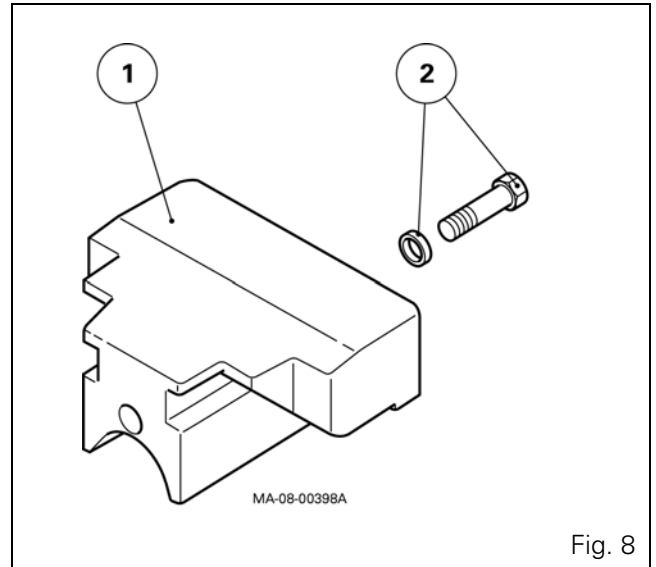

Fig. 8
**NOTE:** If fitted, the centre weight (1) (Fig. 8) is attached under the front frame and may hinder removing the bearing support.
- remove the screws (2) (Fig. 8)
51. Refit the centre weight. Tighten screws (2) to a torque of 420—560 Nm (Fig. 8), after lightly smearing the threads with Loctite 270 or equivalent. Refit the front weights (depending on equipment fitted).